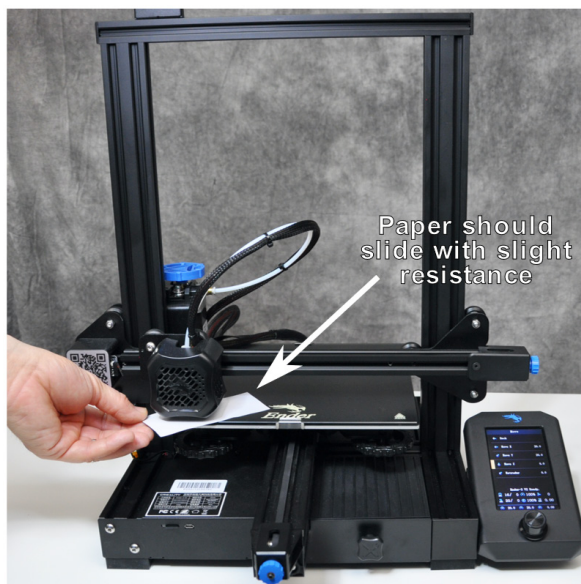
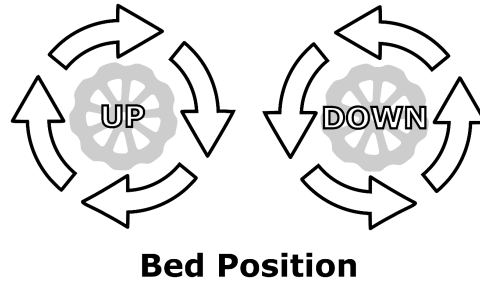

Figure 1.12 – Bed leveling
Figure 1.13 – Adjusting the bed position
12. Using the leveling wheel closest to the point on the bed, turn the wheel to either lower or raise the bed so that the paper can move freely under the print head with a slight tug. The paper should not rip, nor move freely without a little bit of resistance (*Figure 1.12*). Use the graphic in *Figure 1.13* to determine how to move the bed either up or down: